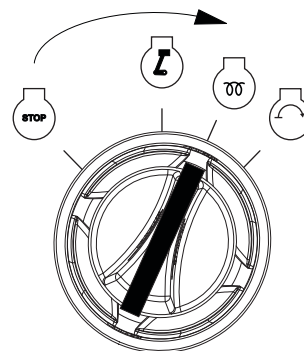

Figure 3-8. Activate Glow Plug
6. See Figure 3-8. Turn ignition switch to GLOW PLUG position and hold for 10 to 15 seconds